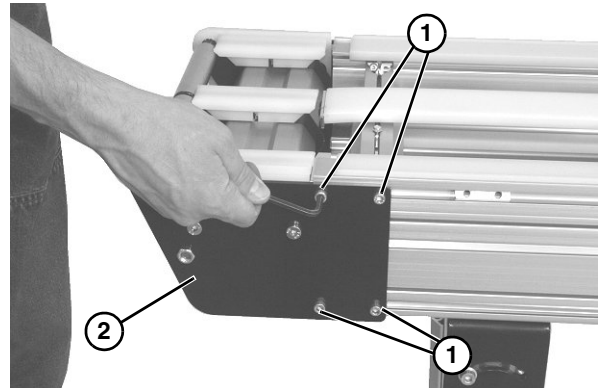

Figure 56
2. On one side of conveyor, loosen the four socket head screws (**Figure 56, item 1**). Repeat on opposite side.
3. Remove idler tail assembly (**Figure 56, item 2**).